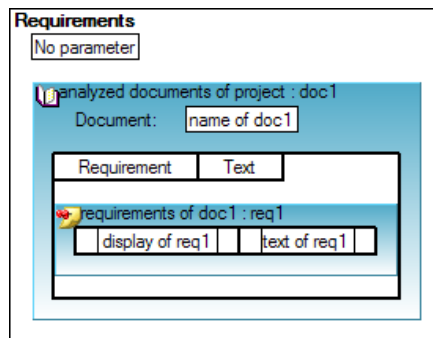

Figure 5-6. Final Custom Report
24. Drag and drop the **req1»Identification information»display** element and the **req1»Identification information»text** element from the Data tab to each of the cells in the new table row as shown in Figure 5-6.